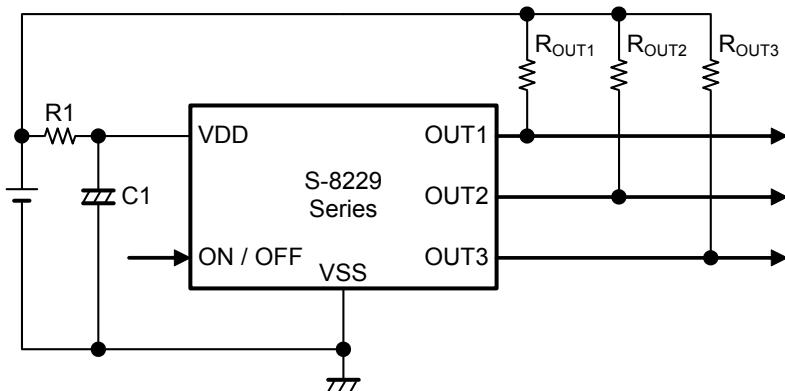

Figure 8
- In applications where a resistor is connected to the input (refer to **Figure 8** in "■ Standard Circuit"), the feed-through current which is generated when the output switches causes a voltage drop equal to feed-through current  $\times$  input resistance. In this state, the feed-through current stops and its resultant voltage drop disappears, and the output switches. The feed-through current is then generated again, a voltage drop appears. Note that an oscillation may be generated for this reason.